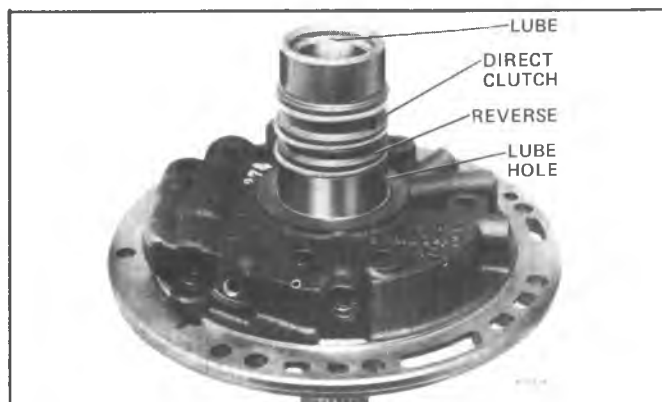

Figure 7A1-153 Pump Cover Oil Passages
23. Install 2 pump to case alignment pins in case as shown in Figure 7A1-162.